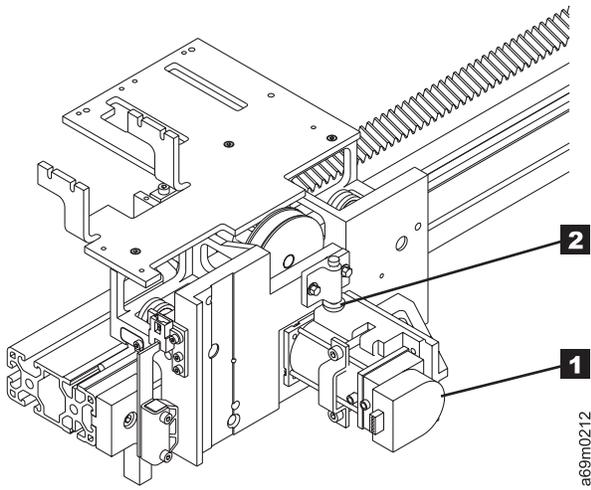

Figure 155. X-Axis Assembly – Later Style
4. See Figure 155 on page 659. Push on the X-motor **1** to compress the spring-loaded belt tensioner **2**.